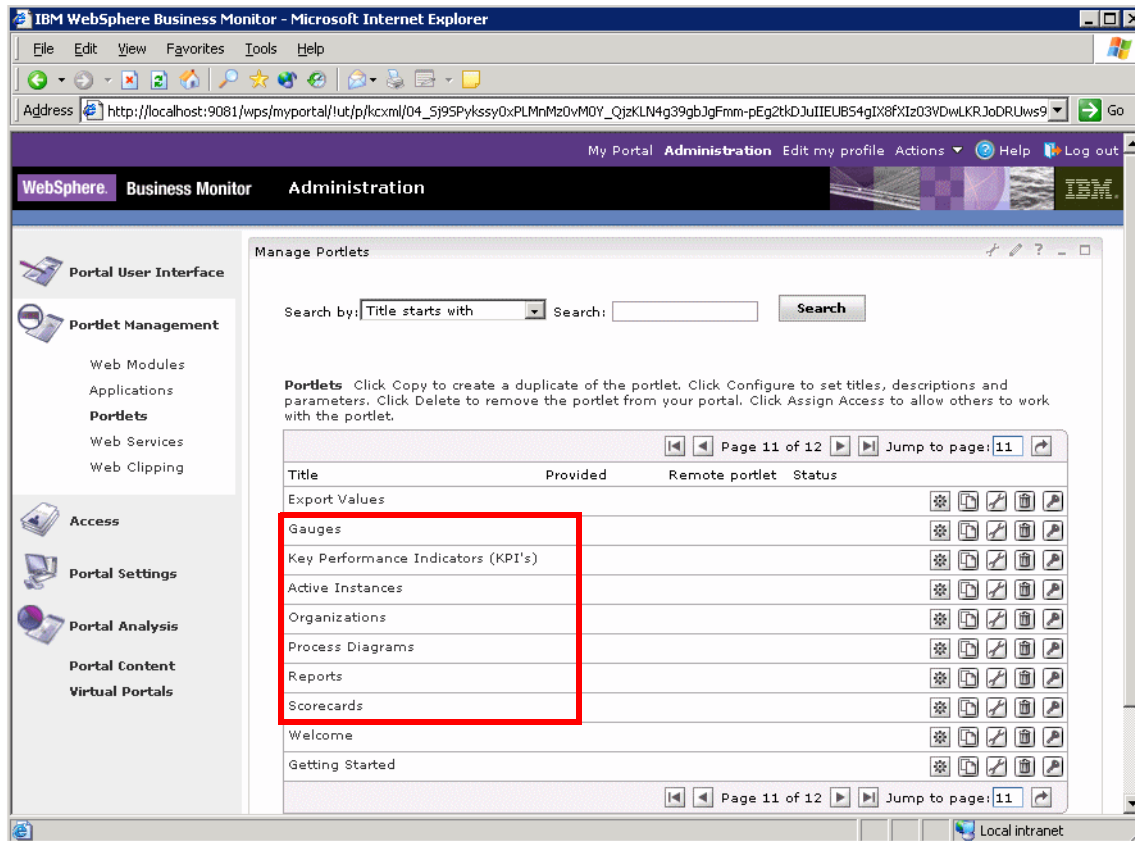

Figure 12-26 Portal Administration: Monitor Dashboard portlets
- ▶ Select *Administration, Portlet Management* → *Portlets*, then go to page 11 of the portlets admin page to see the Monitor Dashboard portlets (Figure 12-26).